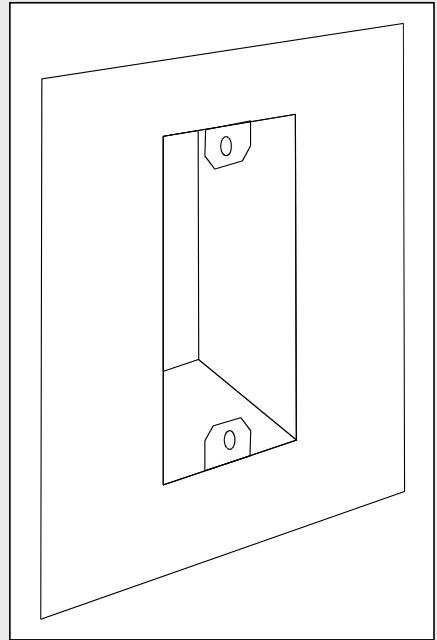

Fig. 11
10. The completed electrical box cut out will be accurately and neatly cut (Fig. 11).